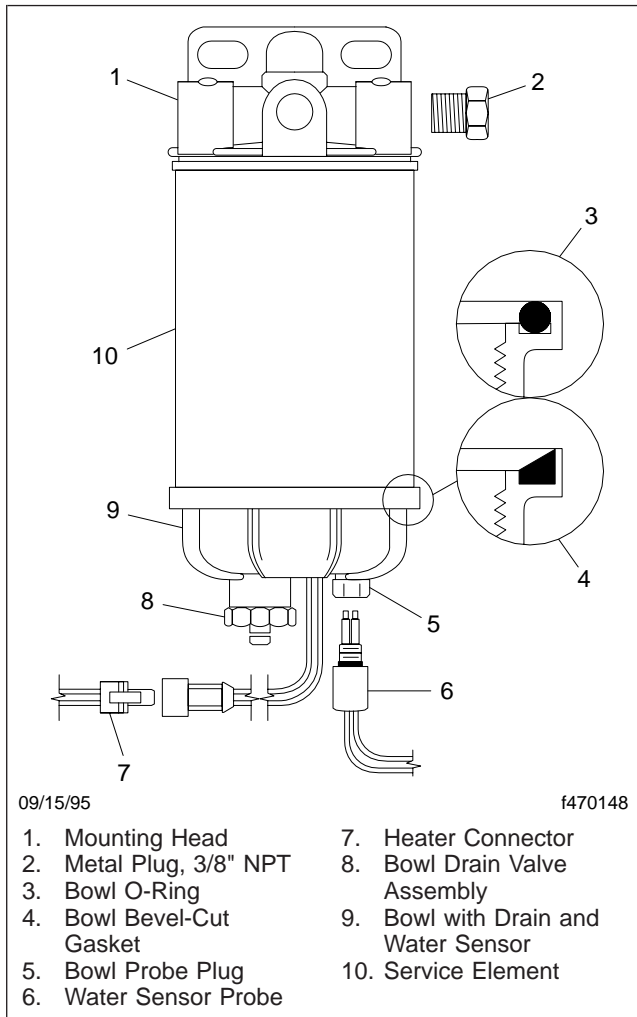

Fig. 5, Racor 690R Fuel/Water Separator (6120R Similar)
1. Drain off some fuel by loosening the vent plug and opening the drain valve. See Fig. 5.
- 8.1 Remove the 3/8-inch metal plug located at the top of the fuel/water separator (see Fig. 5, Ref. 2), and manually fill the unit with diesel fuel.